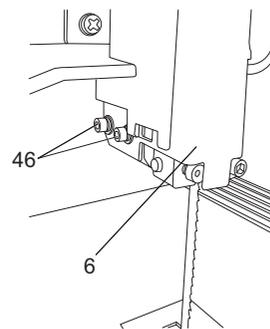

Fig. 31
- > Undo the hex screws (46) and remove the blade guard (6). (Fig. 31)
- > Undo the two hex screws (46) and remove the blade guard (6) (see Fig. 31).